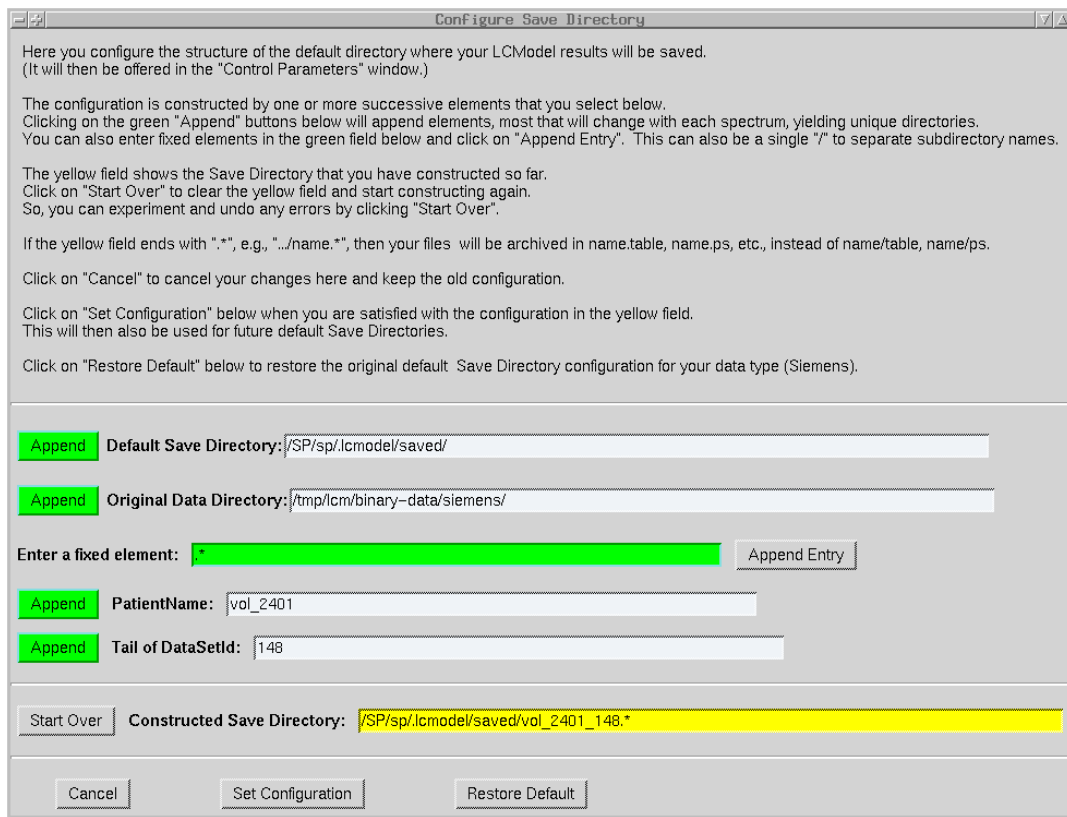

Figure 7.5: The window for permanently reconfiguring the structure of (Siemens) Archive Directories.
Normally, the .PS file is a file called **ps** in the Archive Directory. The following Siemens example using Fig 7.5 shows how to archive them as extensions to filenames.
- (1) Click the green “Append” button next to “Default Save Directory”.
- (2) Click the green “Append” button next to “PatientName:”
- (3) Enter \_ (underscore) in the green field next to “Enter a fixed element”, and then click the “Append Entry” button to the right.
- (4) Click the green “Append” button next to “Tail of Data SetId:”.
- (5) In the green field next to “Enter a fixed element”, delete the underscore and enter .\* (period then asterisk), and then click the “Append Entry” button to the right. This is the stage shown in Fig 7.5.
- (6) If you are satisfied with the structure shown in the field next to “Constructed Save Directory:”, then click the “Set Configuration” button.